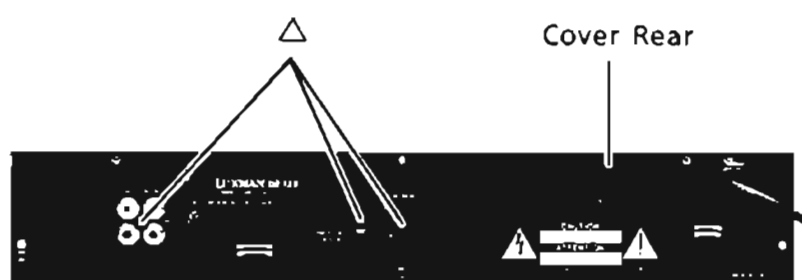

Figure 5
- (1) After removal of the Top Cover, remove three screws marked "△" as shown in Figure 5.